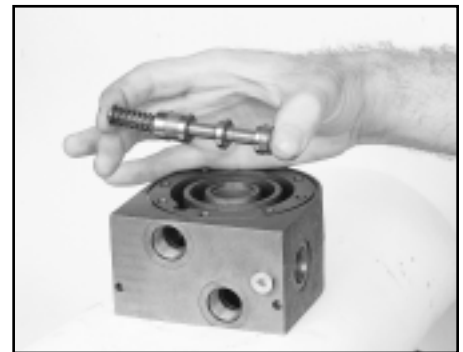

Figure D18
- A) the "double" or "wide" land nearest the "pilot port" for **normally parallel** operation. SEE FIGURE D18.